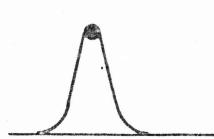

Fig. 3-4-3
- (6) In this case, move the marker to the top by resetting the digital marker switch as shown Fig. 3-4-3.
- (7) This state faithfully represents the tracking marker, by this sweep generator, taking every factor like sweep time, bandwidth, delay etc. into consideration.